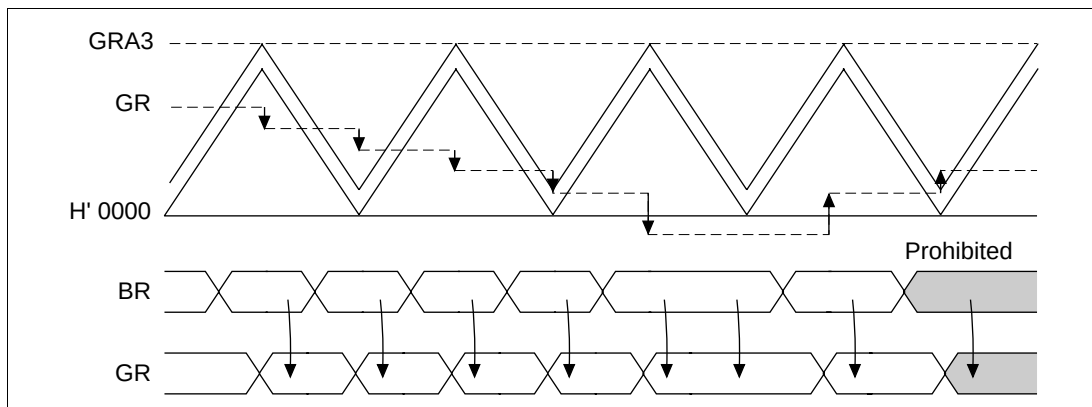

**Figure 10.38 Example of Changing GR Settings with Buffer Operation (1)**
- When changing settings: See figure 10.38.